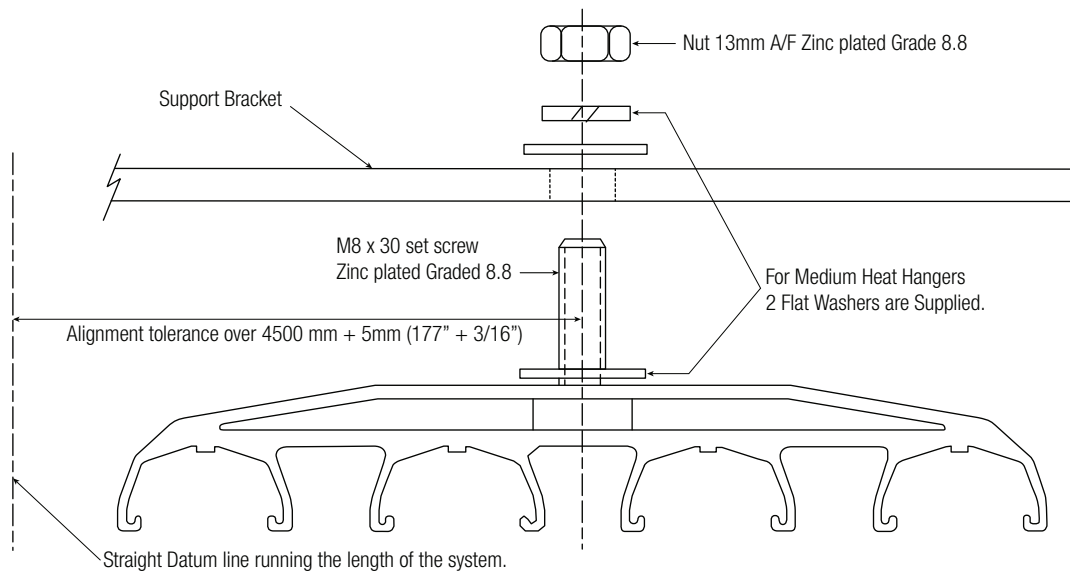

Figure: 6-1
2. Assemble as shown in the diagram, ensuring the correct alignment is observed. (See Figure 6-1).